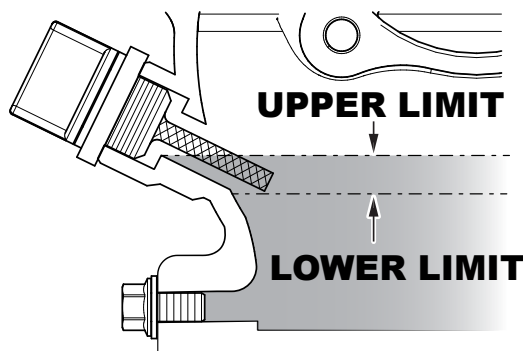

Figure 15. Engine Oil Level
4. If the oil level is low (Figure 15), fill to the edge of the oil filler hole with the recommended oil type listed in Table 5. Refer to Table 2 for maximum engine oil capacity.